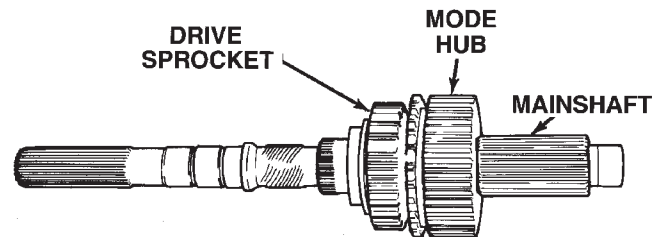

Fig. 22 Mainshaft Assembly Removal
(1) Grasp end of mainshaft and remove shaft, drive sprocket and mode hub as assembly (Fig. 22).